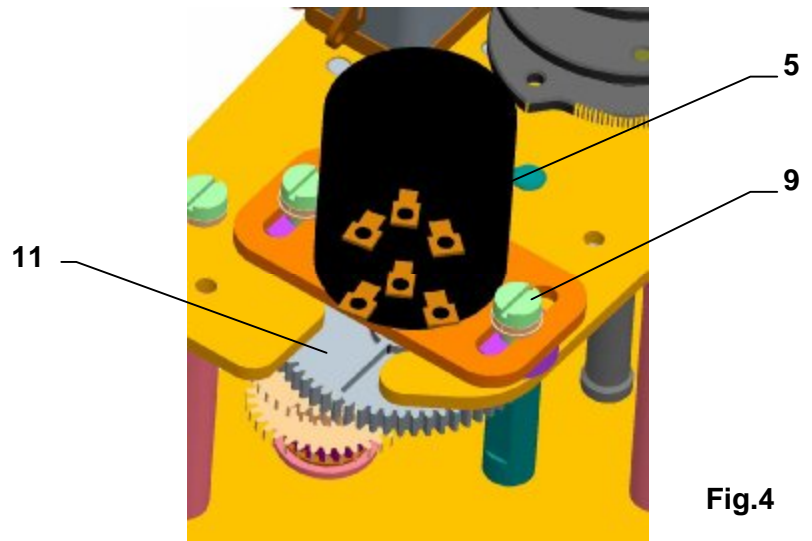

Fig.4
- in the version with a resistant transmitter (Fig.4) disengage the transmitter;
- loosen the nut (22) with simultaneous holding the central milled nut (23) and then loosen the nut (23) fixing the cams still having the belleville springs which create axial thrust;
- reset the EA to the “Open” position and rotate the cam (29) clockwise (when viewing the actuating plate from above) until switch S3 switches over (25);
- reset the EA by the angle where the “Open” position is to be indicated and turn the cam (31) clock-wise until switch S3 switches over (27);
- reset the EA to the “Closed” position and turn the cam (28) counter clockwise until switch S4 switches over (24);
- reset the EA back by the angle where the “Closed” position is to be indicated and turn the cam (30) counter clockwise until switch S6 switches over (26);
- once the EA is adjusted manually tighten the central milled nut (23) to lock the cams and tighten the lock nut (22) while simultaneous holding the milled nut;
- swing the position indicator discs (31) for the given operating stroke against the gauge mark on the top cover sight;
4.3 Adjustment of resistant transmitter (Fig.4)